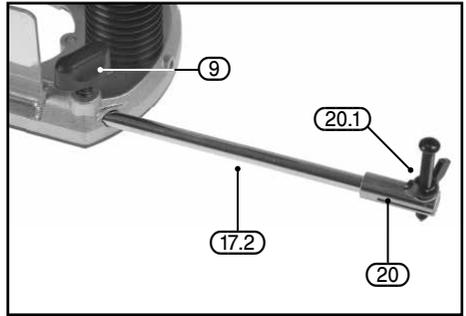

FIG.11
9.6 PIVOT ROD TRAMMEL – FIG. 11
- Remove one of the 2 rods (17.2) from the parallel fence guide (17).
- Loosen the parallel fence guide locking screw (9) from the front channel.
- Loosen the trammel wing nut (20.1) and slide the trammel (20) on to the end of the rod.